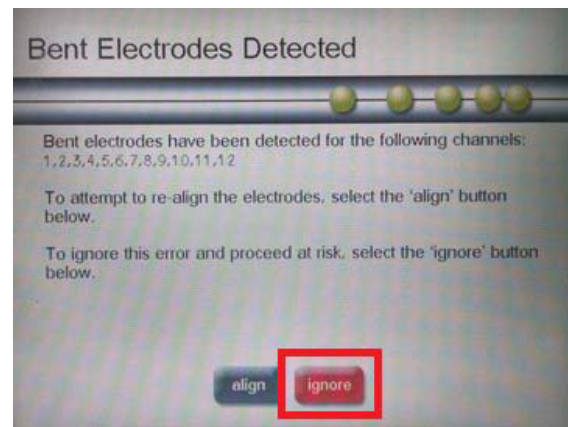

Figure 125: 'Bent Electrodes Detected' screen
5. Approximately 10 minutes after initiating the dry run, the system will display a 'bent electrode' error message (**Figure 125**). This is expected as there is no liquid in the blank cartridge. To continue with the run, choose **ignore** and the Prep Station will continue running the rest of the protocol.